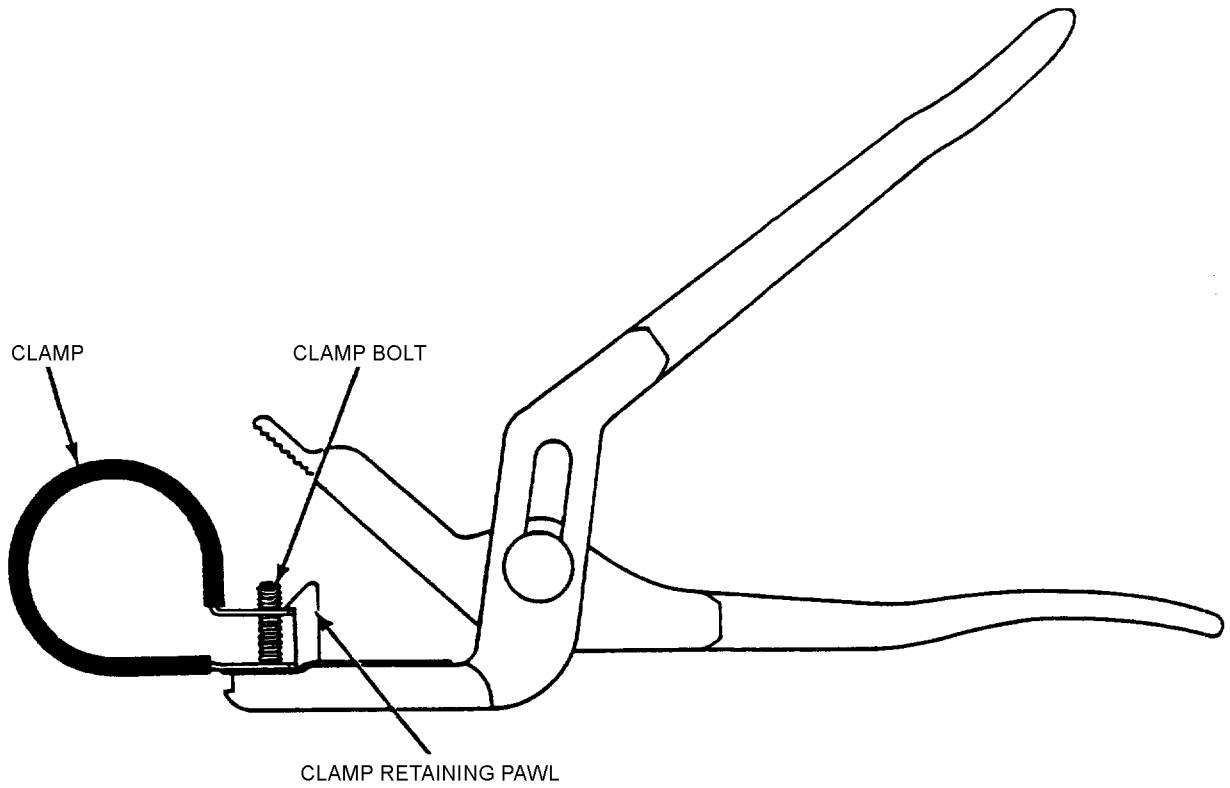

Figure 34. Slip Joint Pliers
46. **PLIER, SLIP JOINT.** This tool to facilitate the installation of cable clamps is shown in Figure 34. Similar to conventional multiple slip joint pliers, the tool compresses and holds the clamp with the securing bolt in place while a nut is being installed on the bolt.